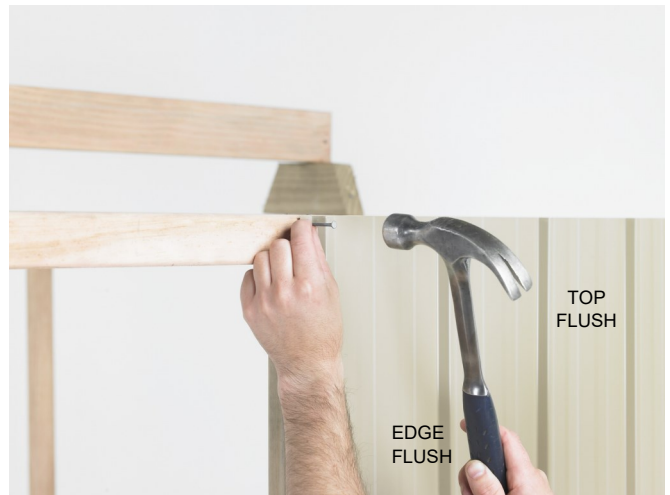

**fig. 1**
When fitting Gable End Sheets ensure they overlap correctly (**fig 1**).
**Step 2: Back Wall:** Position the first Wall Sheet with the LIP on the right hand side. Ensuring the LIP is flush with the side of the corner Stud and the top of the Wall Sheet is flush with the top of the Top Plate, tack in place. Position the next Wall Sheet with the LIP on the right hand side. Overlap as shown in **fig 1**. Ensuring Wall Sheet is flush with top of Top Plate, tack in place.